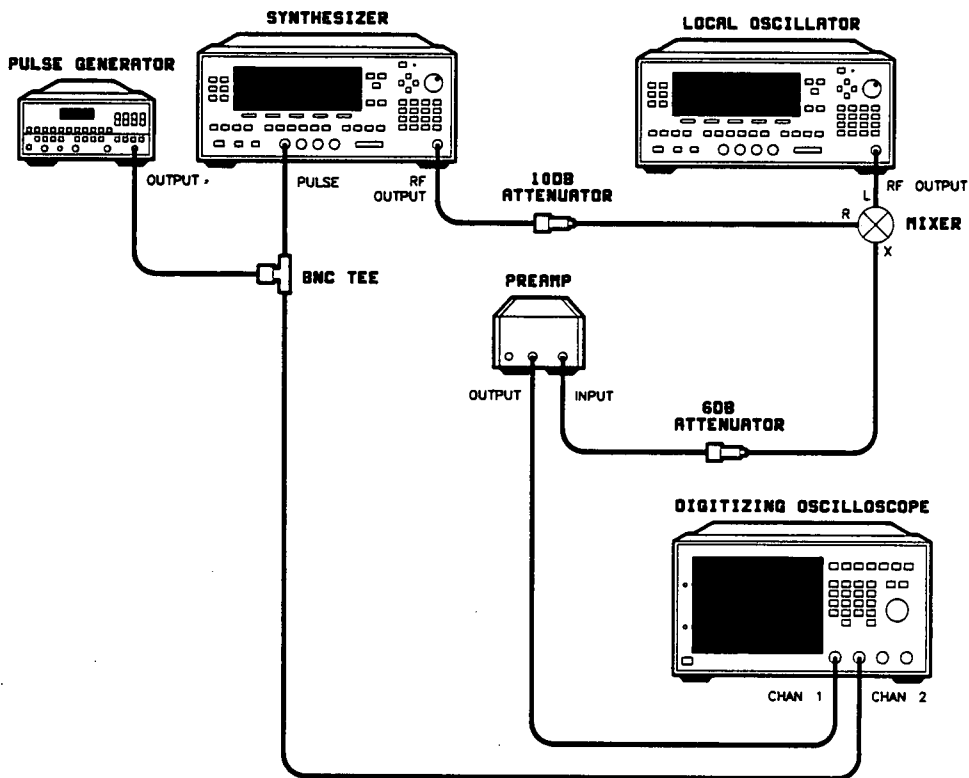

Figure 2-16. Pulse Performance Test Setup <20 GHz
1. Turn on the equipment shown in figures 2-16 and 2-18. Preset the instruments and let them warm up for at least one hour.
2. Connect the equipment as shown in figure 2-16.